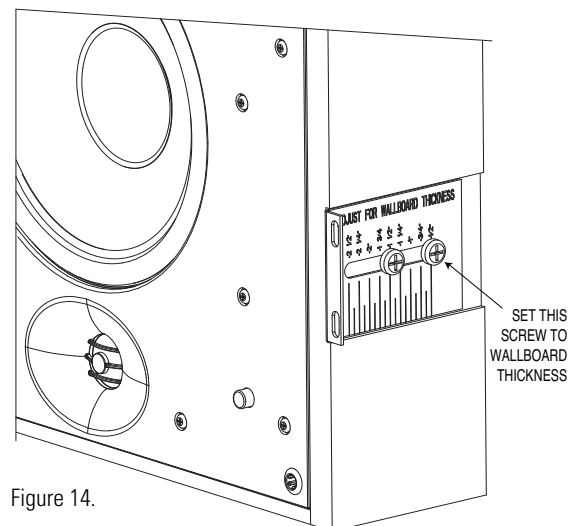

Figure 14.
The speakers are directly attached to the mounting L-brackets with hardware supplied in the speaker packing box, and can be adjusted for proper mounting depth with a variation of up to 2-1/2 inches. The actual depth will vary depending on wall construction and acoustic materials applied to the wall surface (see Figure 14). To flush-mount the grille to the wall
**OPTION 1 – NEW CONSTRUCTION:** The S4PCB mounting-flange bracket must be installed before the drywall is installed in the room. Attach the included L-brackets to the speakers (see Figure 14), and attach them to the mounting flanges at the appropriate recessed distance. The S4VC and S4HC require a minimum 6" wall depth. The S4Ai requires a minimum 4" wall depth (see Figures 15, 16 and 17).